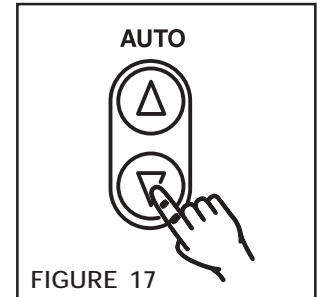

FIGURE 17
3. Press the **AUTO** Key up or down to select the function to be preset (See Figure 17).